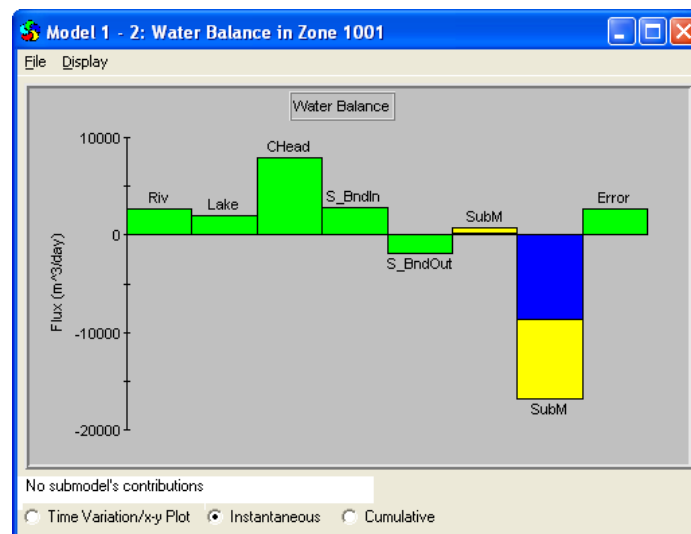

Figure 15-18 Water balance at first hierarchical level
- (4) Click once in each color in the **SubM** bar. Each click will open a separate water balance window for the submodel at the next hierarchical level. **Figure 15-18** shows water balance for the next hierarchical level.
Notice that in **Figure 15-18** there are water balance components with titles ‘S_BndIn’ and ‘S_BndOut’. These components represent boundary fluxes across the sub model boundary. Notice that the **SubM** component is still present, which means that next level of hierarchical models exist. This **SubM** component represents all conceptual components contained in the submodels for the next hierarchical levels.